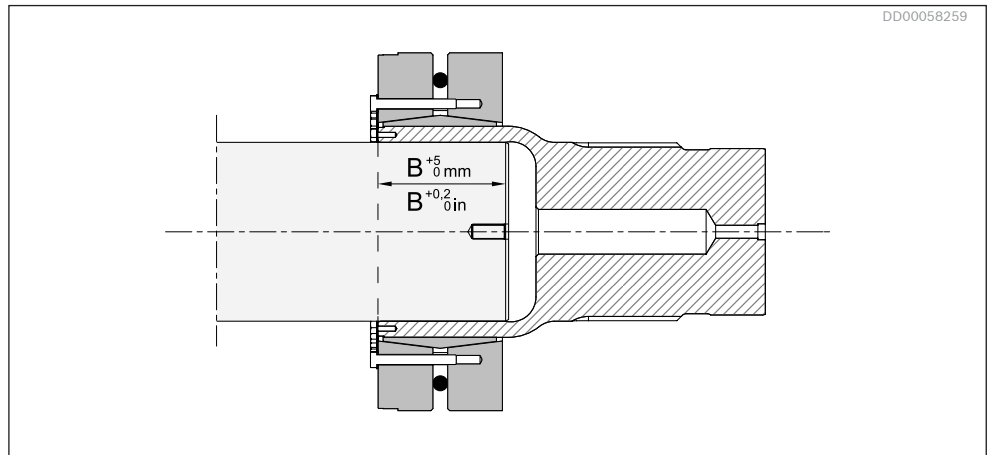
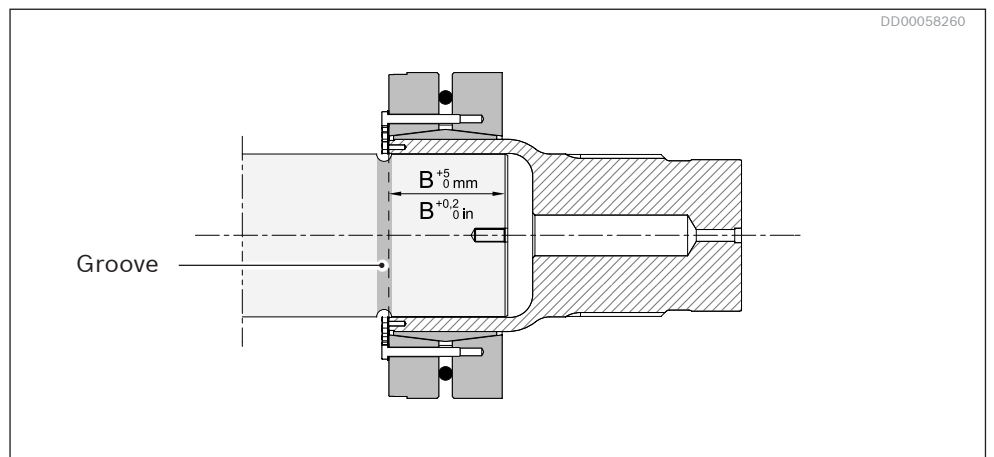

Fig. 42: Driven shaft without stress relieving groove
Fig. 43: Driven shaft with stress relieving groove
5. Pull the coupling adapter on the shaft by turning the nut on the assembly tool to specified clamping length (length B, see *Fig. 42* and *Fig. 43* and *Table 15*).
The motor can be mounted to the driven shaft with or without a mounting tool, but the use of a mounting tool is recommended since it makes the work easier. Ensure that the full clamping length is used by, for example, measuring and marking the driven shaft. This is of particular importance if the driven shaft has a stress relieving groove. See *Fig. 42*, *Fig. 43* and *Table 15*.
5. Pull the motor onto the shaft by turning the nut on the mounting tool until the length stated in the *Table 15*, is obtained; see *Fig. 42* and *Fig. 43*.
8. Remount the plug G1¼ (2).
9. Remount the end cover (3) and tighten the screws together with washers.
6. Ensure that the full clamping length is used by, for example, measuring and marking the driven shaft. This is of particular importance if the driven shaft has a stress relieving groove. See Fig. 42, Fig. 43 and Table 15.